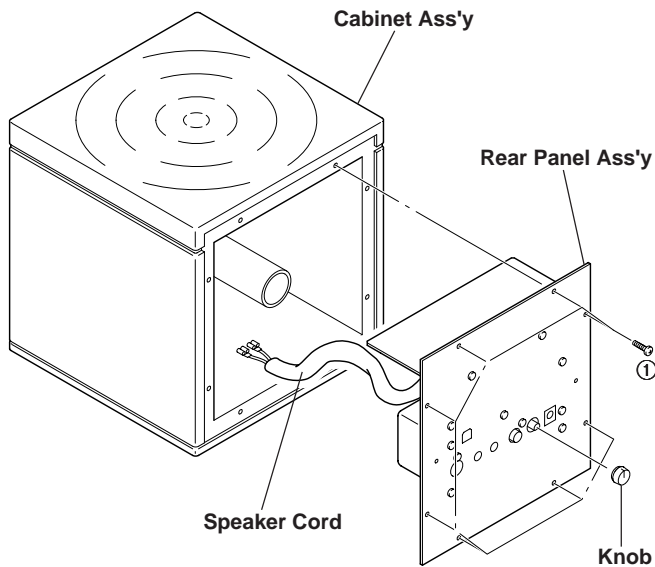

Fig. 1
- Remove 1 knob from the rear panel ass'y in Fig. 1.
- Remove 8 screws (①) in Fig. 1, and remove the rear panel ass'y from the cabinet ass'y.
- Disconnect the speaker cord in Fig. 1.